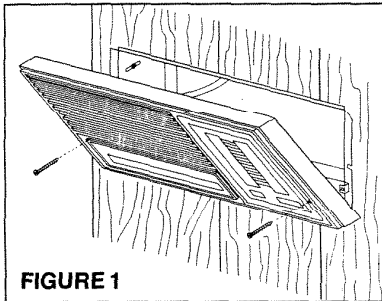

FIGURE 1
1. Remove two (2) No. 6 x 3/4 screws from front of master panel. (See Figure 1.)